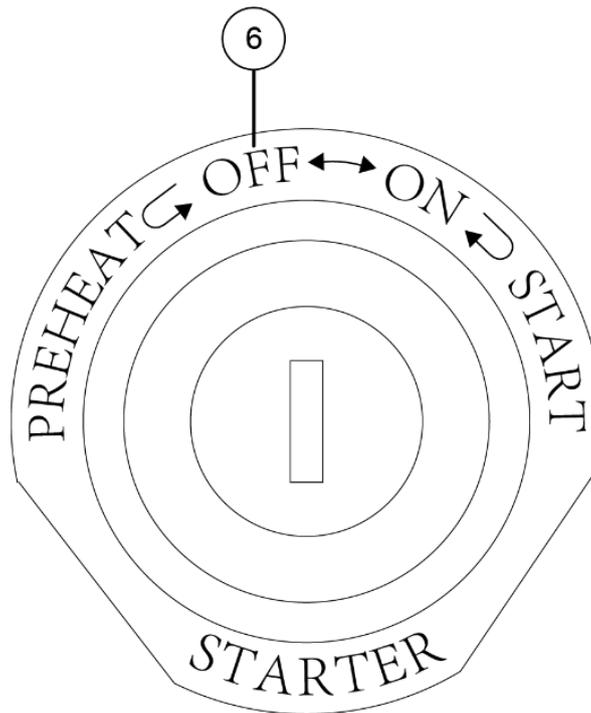

Figure 5-35 Starting switch
(5) Brake handle
Step 4: Turn the starting switch to "OFF" state(6) in order to stop the engine, as shown in Figure 5-35;